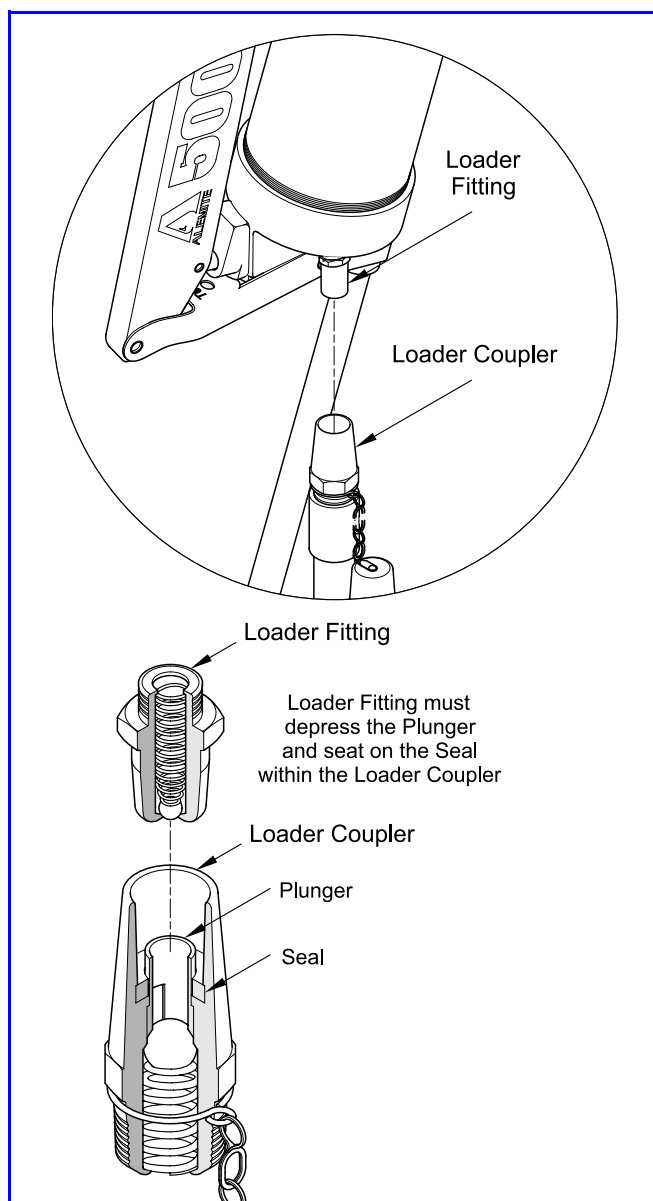

Figure 5 Loader Fitting and Loader Coupler
The guns are spring-primed and contain an air bleed valve to aid the priming process. Each gun is also equipped with a Loader Fitting that allows filling directly from a hand-operated loader pump. See **Figure 5**.
5. Seat the Loader Fitting into the loader coupler. See **Figure 5**.